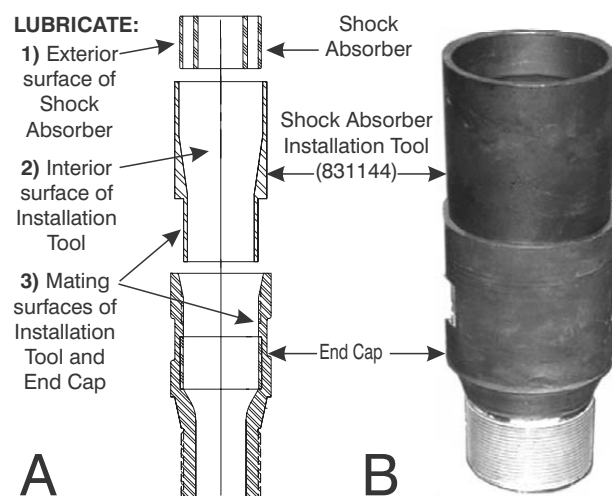

Figure 9-5. End Cap, Tool P/N 831144 and Shock Absorber
1. Lubricate the internal surface of the Shock Absorber Installation Tool, P/N 831144. Lubricate the mating surfaces of the installation tool and End Cap (8) as shown in Figure 9-5-A.
2. Position the End Cap (8) in an arbor press with the threaded end down and insert the installation tool into the upper end of the End Cap, as shown in Figure 9-5-B.